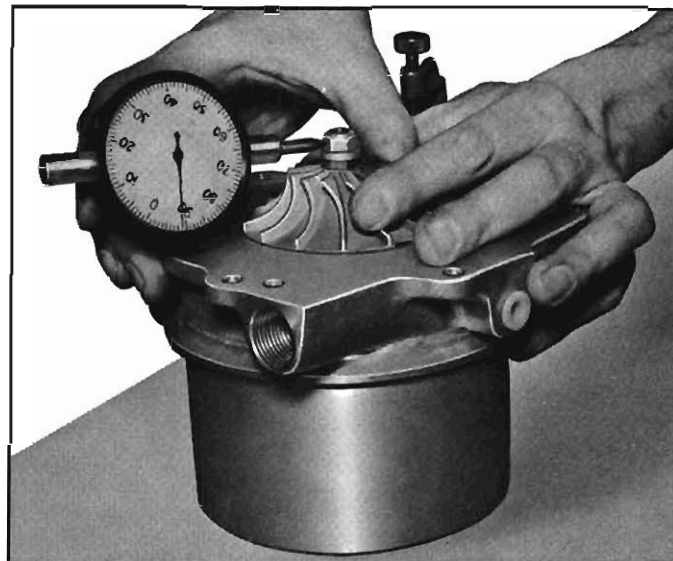

Fig. 33—Gauging Turbine Shaft Radial Play
- a. With the assembly on the support ring (Tool J-21004), position the dial indicator so its point is resting on a flat of the impeller nut (fig. 33) and needle set at zero.